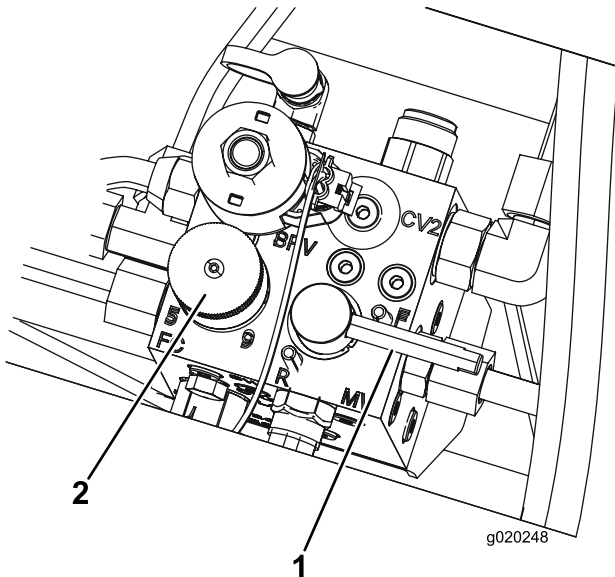

Figure 97
5. Set the reel speed control knob to position 1 (Figure 97).
6. Move the backlap lever to the R (backlap) position (Figure 97).